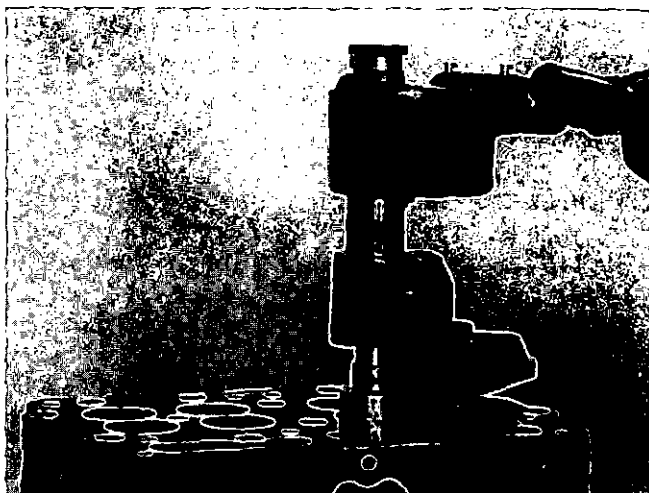

Fig. 2-9. Align The Tool With The Valve Seat.
- d. Use a seat driver from the Tool Kit. The driver must have the same diameter as the cutter. Install the driver over the arbor and adapter sleeve and through the swivel, Fig. 2-9.